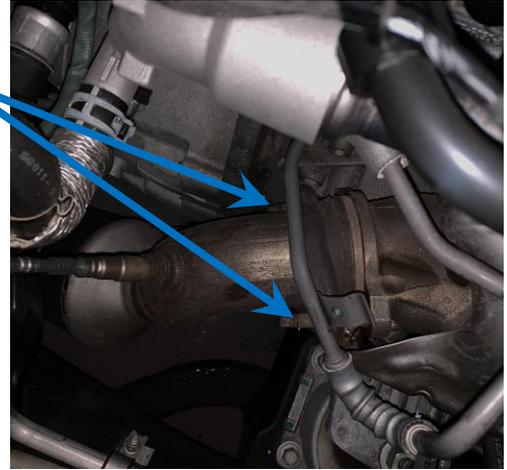

Fig. 12
1. Locate and remove both nuts from studs. See Fig. 12 (use 15mm socket)